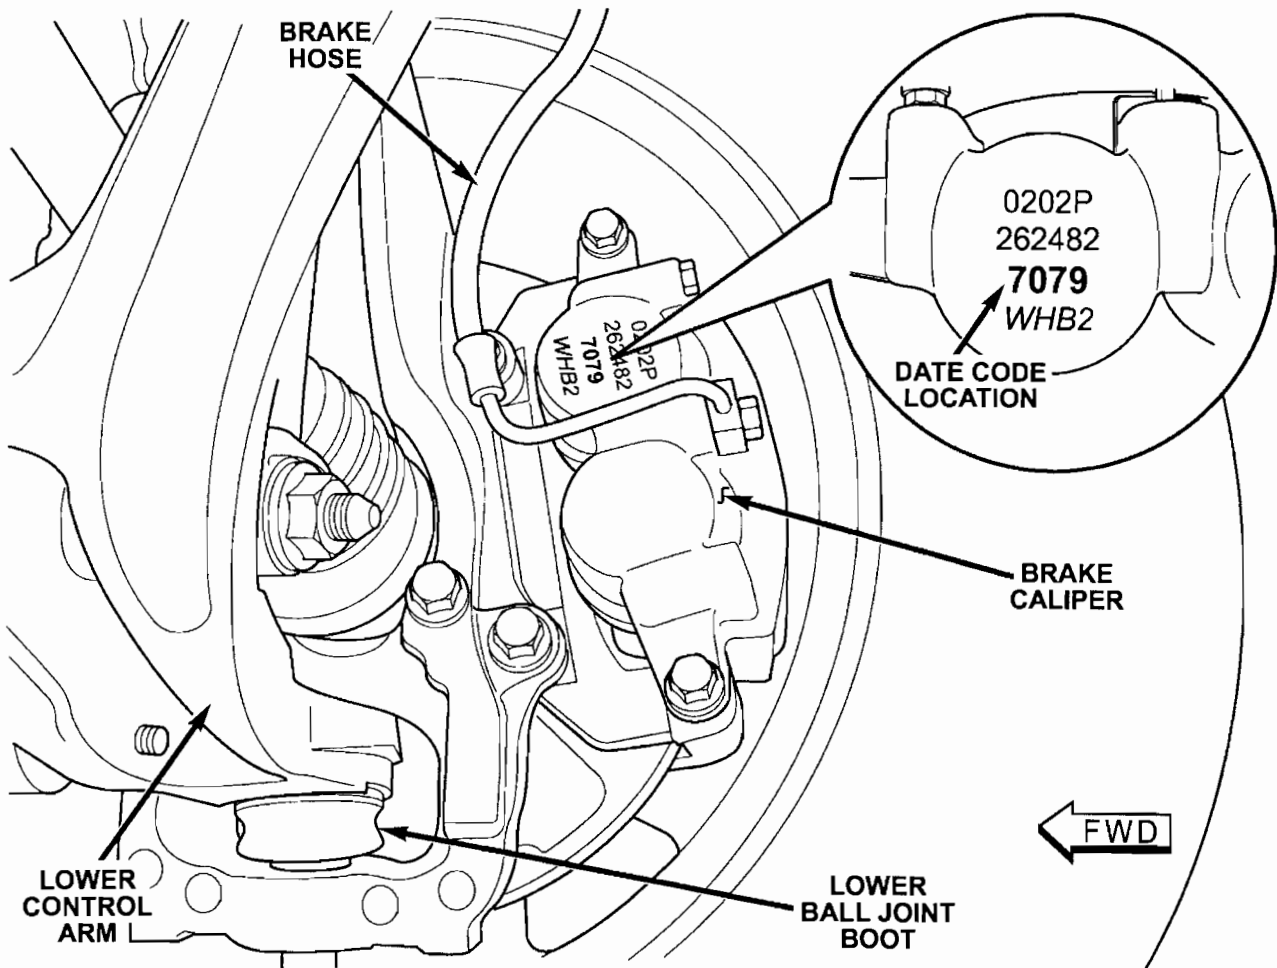

Figure 1 - Right Caliper Shown
2. Inspect the date code on both front brake calipers. The date code is located on the back side of the caliper body (Figure 1).